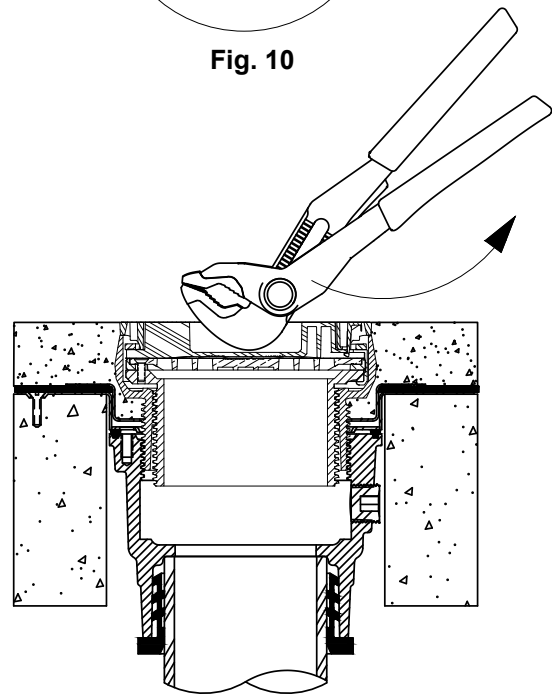

Fig. 11
11. Placing the back of the adjustable pliers head in the slot, unscrew the rough-in cover assembly counterclockwise until the tabs of the rough-in cover are above the concrete. See Fig. 11